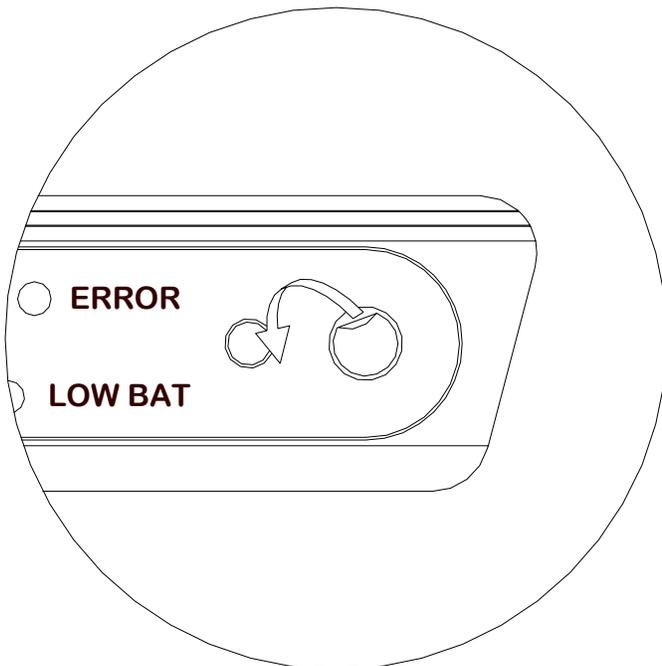

Figure 9
1. Peel the gray protective covering off the two emergency backup pads as shown in Figure 9 below. A sharp-tipped object will help get the covers started.